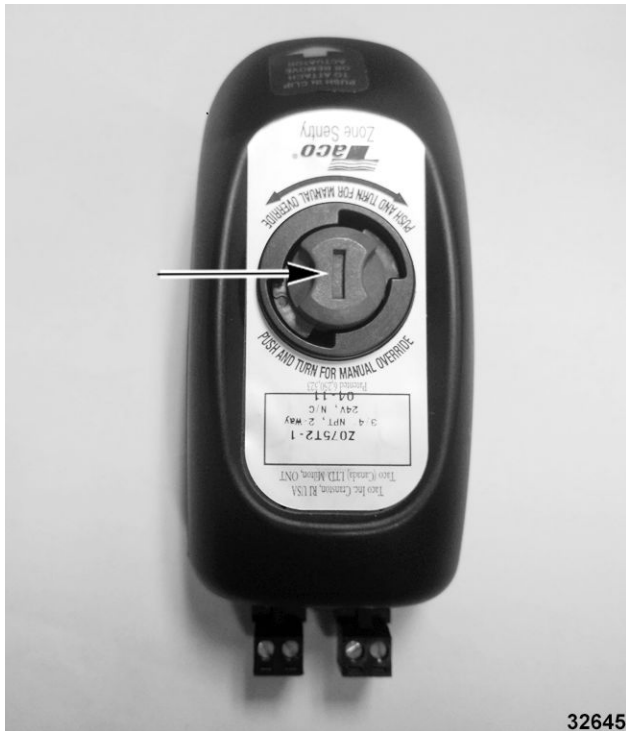

Fig. 33
- A. Push in and turn knob 90° counterclockwise to open (Fig. 33).